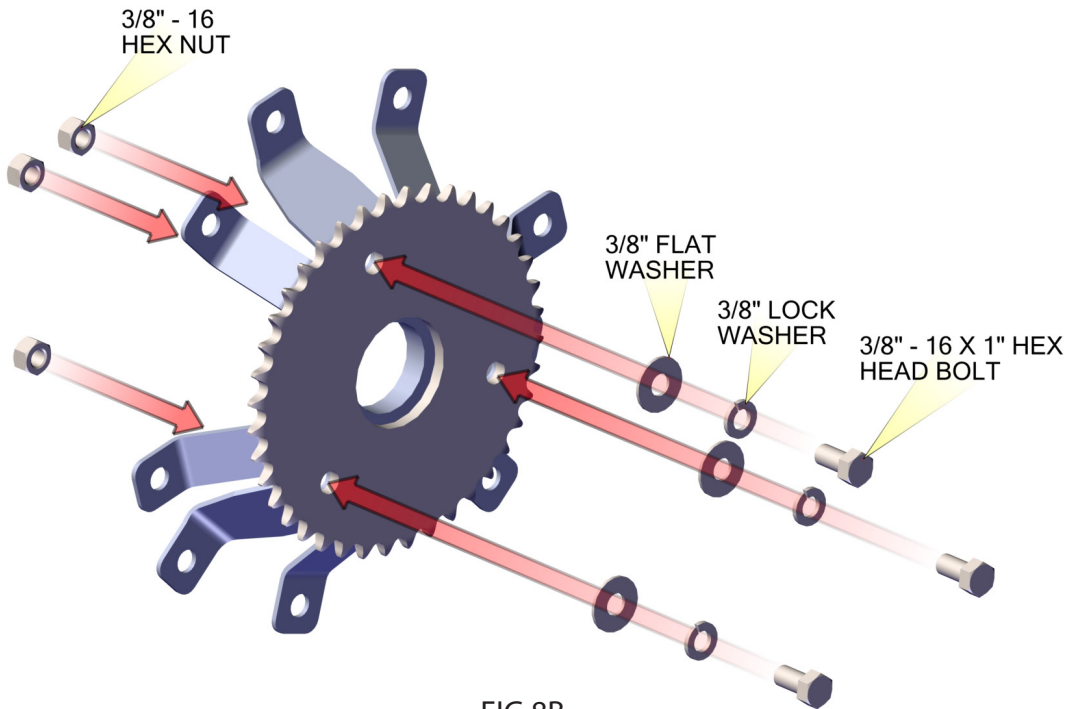
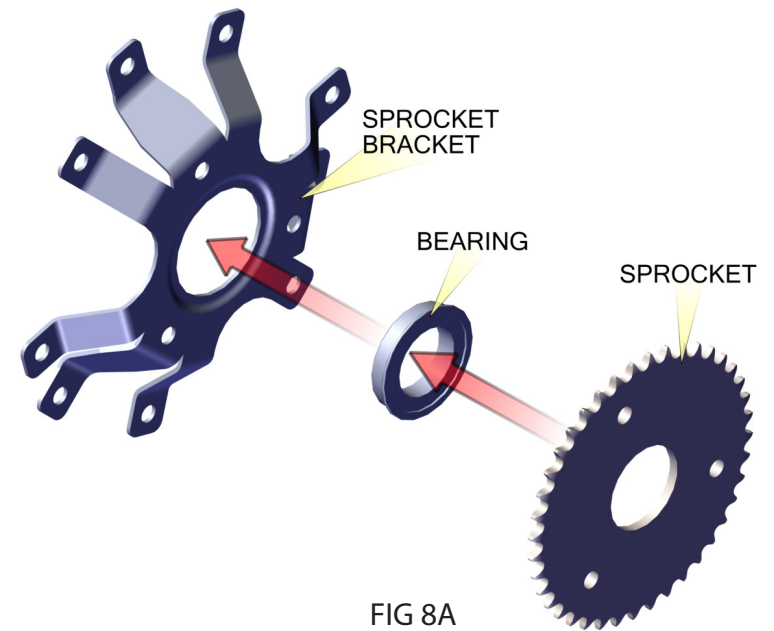
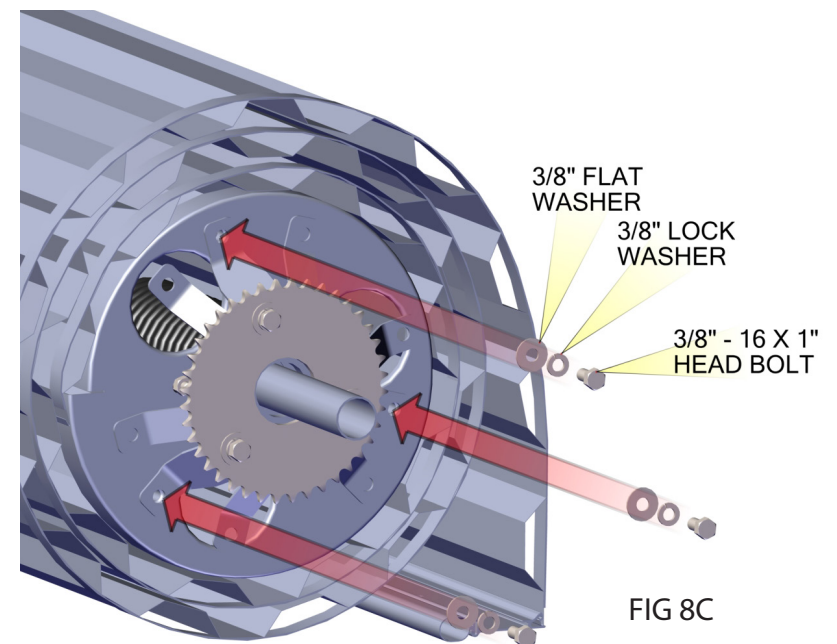

FIG 8B
FIG 8A
FIG 8C
- Assemble the sprocket, bearing, and the sprocket bracket together using 3/8"-16 x 1" hex head bolts, 3/8" lock washers, and 3/8" flat washers. See FIG 8A and FIG 8B.
- Position the assembly up against the drum wheel of the curtain assembly. One the holes are aligned secure it with 3/8"-16 x 1" hex head bolts, 3/8" lock washers, 3/8" flat washers, and 3/8"-16 hex nuts. See FIG 8A and FIG 8C.